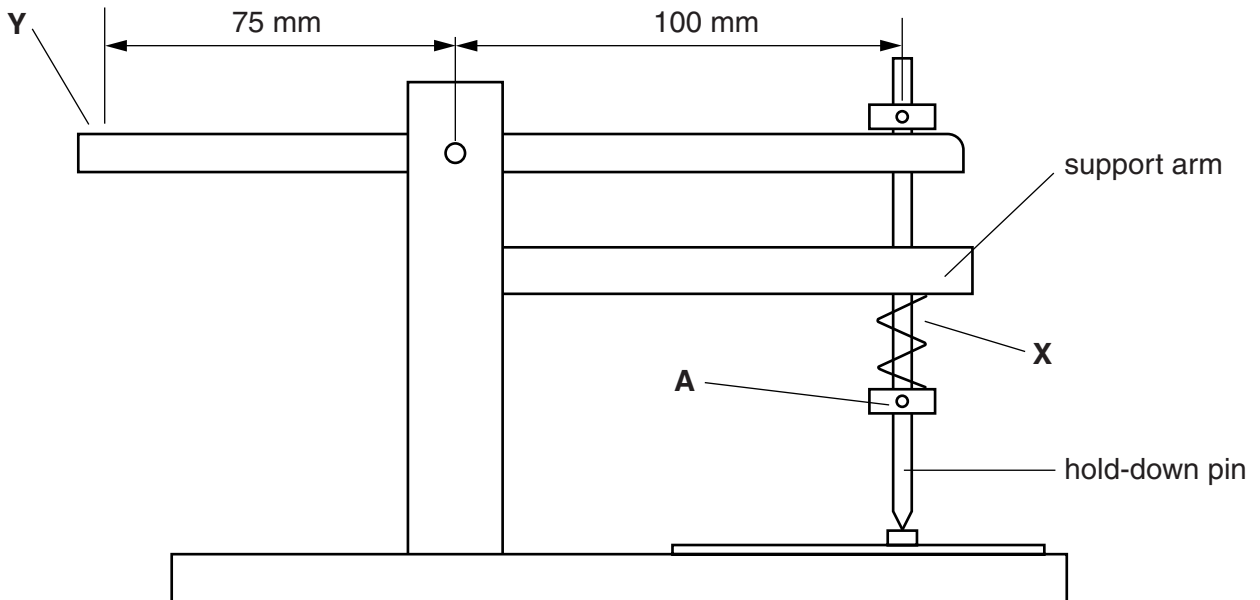

Fig. 7
- (a) Indicate on Fig. 7 below the Load (L) Effort (E) and Fulcrum (F).
(b) Fig. 7 shows the surface mount assembly jig mechanism.
(d) Describe the purpose of the collar labelled A on Fig. 7.